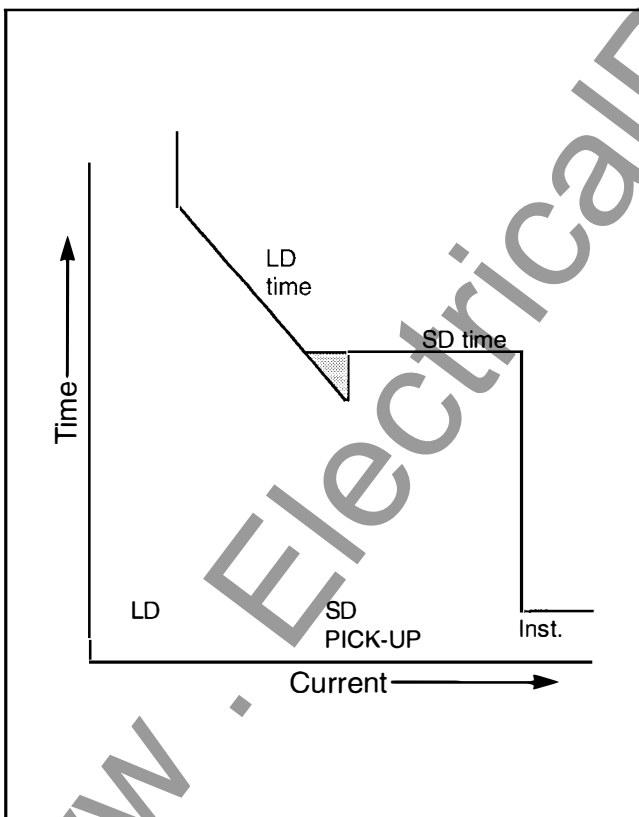

Figure 3-11 Typical LS Curve With I^2T Slope
Note that the scope of protection offered by the Digitrip MV Trip Unit is a coordinated effort. This is especially true when a number of protective functions, such as long time and short time protection are combined into one cooperative curve. *Figure 3-11* shows a typical time-current which has both long and short time protection, and an I²T slope selected for the long delay time. Because of the pickup, time and slope selections made for this illustration, a triangle (shaded area on the illustration) is formed by the intersection of the different time and pickup lines. Internally, the Digitrip MV Trip Unit design looks at this particular curve as if the shaded triangular area does not exist. Therefore, in an actual performance situation, the phase short delay time function would take precedence over that portion of the phase long delay time line forming the one leg of the triangle. This does not create a problem from a protection or coordination standpoint. In fact, it is recommended on certain applica-
- 3) The internal design of the Digitrip MV Trip Unit is such that the Phase Short Delay Time setting might take precedence over the Phase Long Delay Time. This is graphically illustrated in *Figure 3-11*